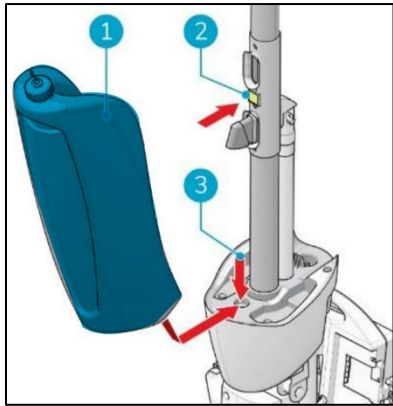

figure 31.
14. Put the bottom of the recovery tank (Figure 31, pos 1 and pos 3) on the front of the i-mop® XL
15. Push the top of the tank into place until you hear a "click" sound, the magnet (Figure 31, pos 2) will lock the recovery tank into place.